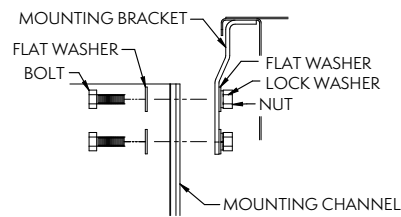

Figure 20 – Mounting Channel Installation
2. Use 3/8" (10 mm) flat washers, lock washers and nuts to secure the mounting channel to the bracket, as shown in **Figure 20**.